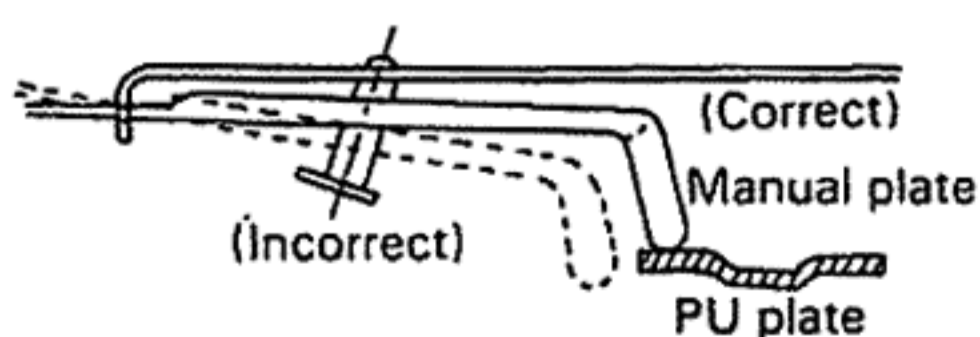

Figure 8
- 1) The Manual Plate must not move off from the PU Plate when the tonearm is moved to the extreme right hand side (See Figure 8).